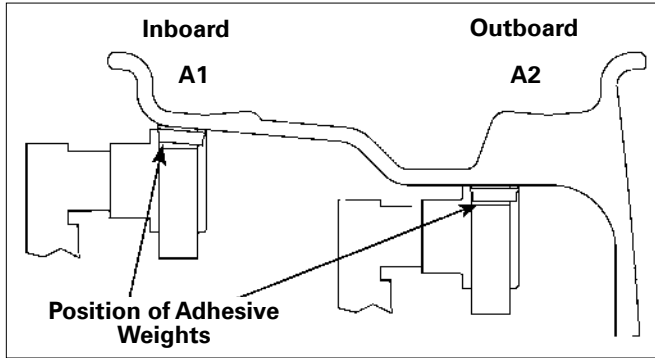

Figure 15 - Automatic A2 & D2 Measurement At Adhesive Weight Location
- For A1 data entry, move the arm from home position and place the offset arm up against the wheel flange in position A1, as shown in figure 15.
- For A2 data entry, after taking the inboard measurement, move the offset arm to the inner area of the wheel; up against the rim at the outboard weight placement location, as shown in figure 15.